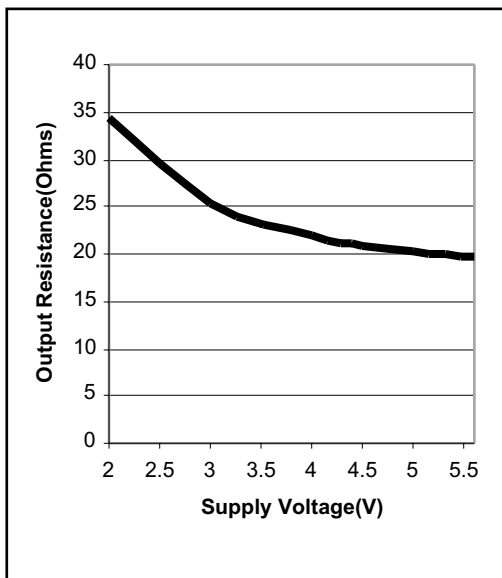

Figure 2. Output Resistance vs. Supply Voltage
**Figure 17: SP6830/6831 Connected as a Voltage Inverter in its Typical Operating Circuit; this Circuit Was Used to Obtain the Typical Performance Characteristics Found in Figures 2 Through 16 (unless otherwise noted)**